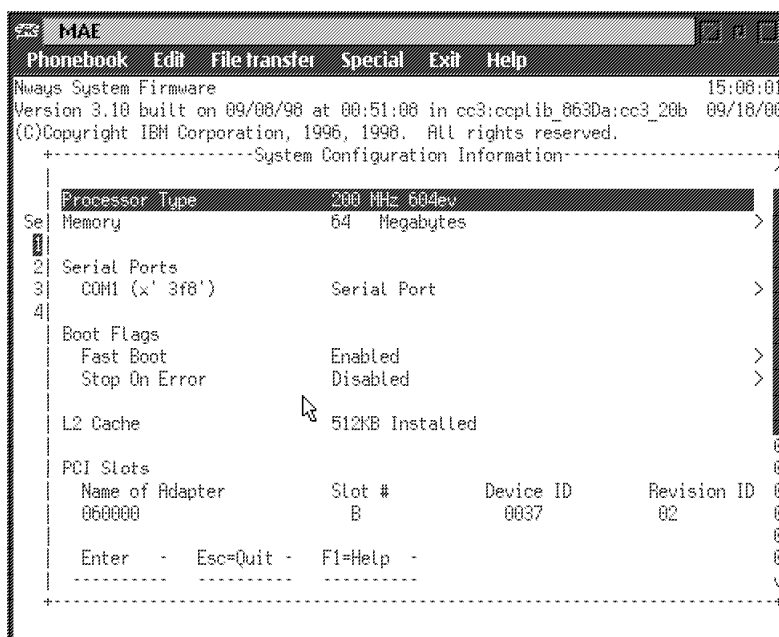

Figure 5-2. System Configuration Information
**2** The System Configuration Information panel is displayed as shown in Figure 5-2.